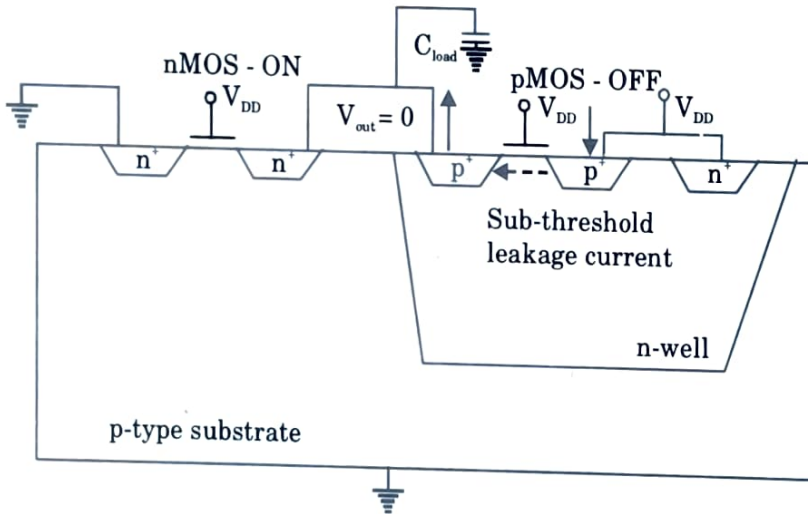

Fig. 4.14.2.
12. Sub-threshold current can occur even when there is no switching activity in the circuit as shown in Fig. 4.14.2.